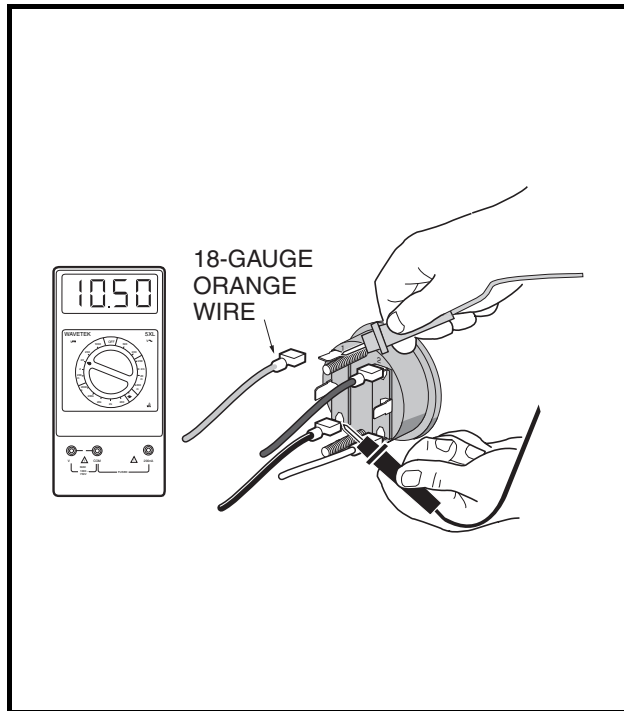

Figure 11-34 Test Fuel Level Sending Unit
4. With a multimeter set to 2k ohms, place the red (+) probe of the multimeter on the center post of the sending unit. Place the black (-) probe on the ground connection of the sending unit (**Figure 11-34, Page 11-33**).